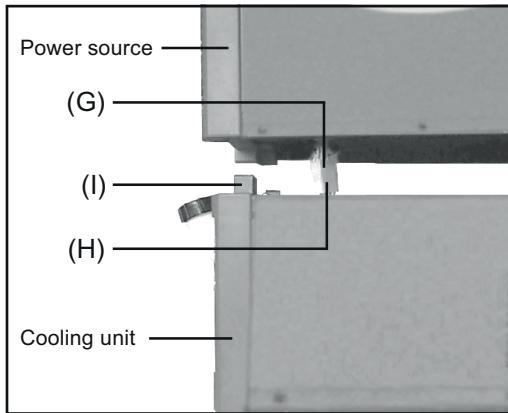

Fig.12 Inserting plug into socket
- [19]** Pull the power source connector (H) as far as possible through the opening on the underside of the power source (Fig.12)
- [20]** Reconnect plug (G) between power source and cooling unit (Fig.12)
- [21]** Carefully place power source onto cooling unit (Fig.12)
- [22]** Fasten power source to the cooling unit at the front and back using socket screws (Fig.12)